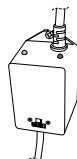

FIGURE 8
- Reconnect the UV bulb socket (7) to the power cord socket (11) make sure you use the latex glove provided when handling the UV bulb.
- Slide the new UV bulb (3) back inside the quartz tube.
- Reinstall the black bulb boot (6) back over the quartz seal compression nut (5).
- Reinstall the enclosure cover (9) with gasket (8) and secure with the screws.
- Once power is activated you can check the ballast (12), Figure 8, to see if the CLEARRAY System is functioning; it has two LED indicator lights the green indicating incoming power flow and the red indicating the system is properly working.